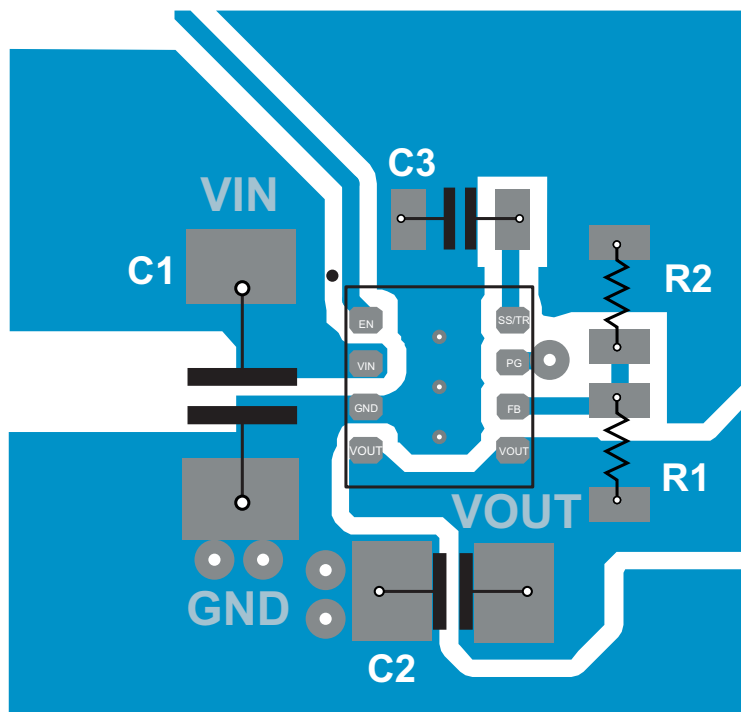

图 31. TPS82140 PCB Layout
- Refer to 图 31 for an example of component placement, routing and thermal design.